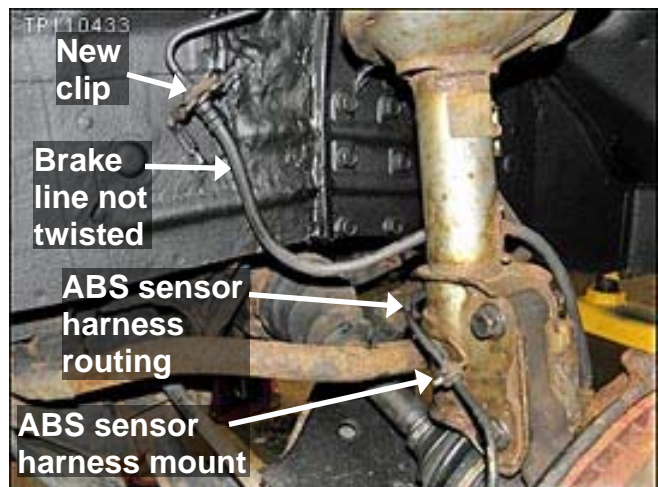

Figure RB38
- Make sure the ABS sensor harness is mounted correctly as shown in Figure RB38.